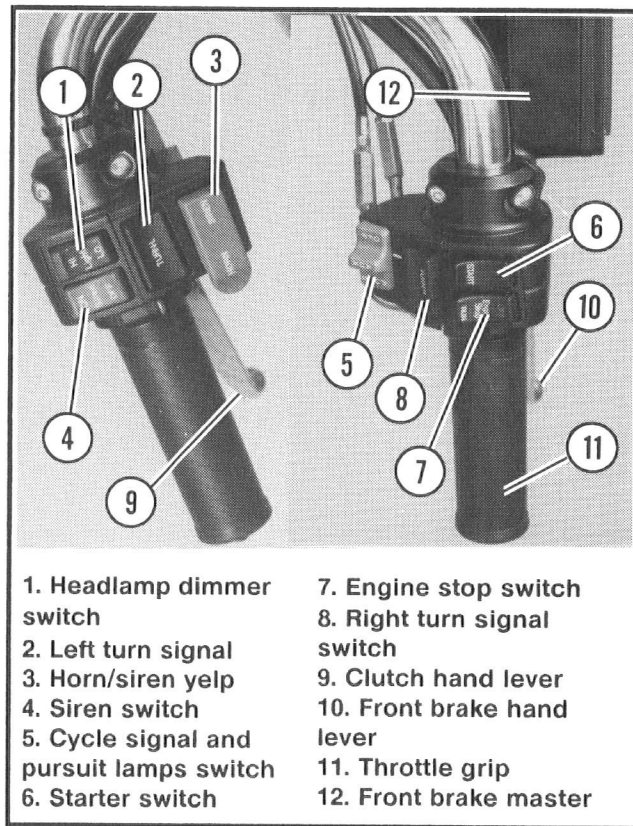

Figure 3. Handlebar Controls
See Figure 3. The starter switch (6) is located on the right handlebar. With ignition on, engine stop switch (7) in "RUN" position and transmission in neutral, push switch to operate starter motor.
See Figure 3. Stop switch (7) on right handlebar turns ignition on or off and should be used at all times to stop the engine, especially in an emergency. To stop engine, push switch to position marked OFF. Turn ignition/light switch to position marked OFF and remove key before parking or leaving vehicle.
See Figure 3. The throttle control grip (11) is located on the right handlebar control group. Turn control grip clockwise to close throttle; turn control grip counterclockwise to open throttle.
See Figure 3. Engine speed increases as the enrichener knob is pulled out. By moving the enrichener knob, you adjust the air/fuel mixture to start a cold or warm engine.
See Figure 3. The clutch hand lever (9) is located on the left handlebar where it may be easily operated with the fingers of the left hand. Pull lever in against handlebar grip to disengage clutch; release the lever slowly to its outward position to engage clutch.
See Figure 3. The headlamp dimmer switch (1) on the left handlebar controls the headlamp high and low beams.
See Figure 3. The siren switch (4) is located on the left handlebar. The siren switch is used in combination with the horn switch (3) to activate the siren. The three procedures for operating the siren are as follows:
See Figure 3. The horn is operated by the horn switch (3) on the left handlebar. Refer to the **SIREN SWITCH** previously covered for the siren models controlled by the horn switch.
See Figure 3. The cycle signal and pursuit lamps switch (5) is located on the right handlebar. The two procedures for operating this switch are as follows: